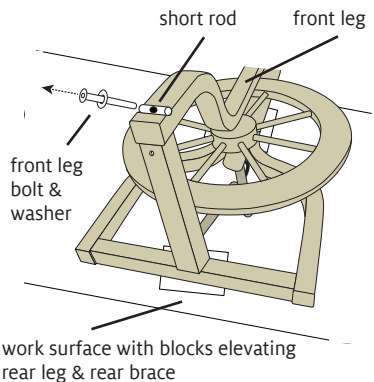

FIGURE 4: REMOVE HARDWARE
6. Using the 4 mm hex wrench, remove the front leg bolt and washer attaching the front leg to the cross brace (Figure 4). Leave the short rod in place on the front leg.